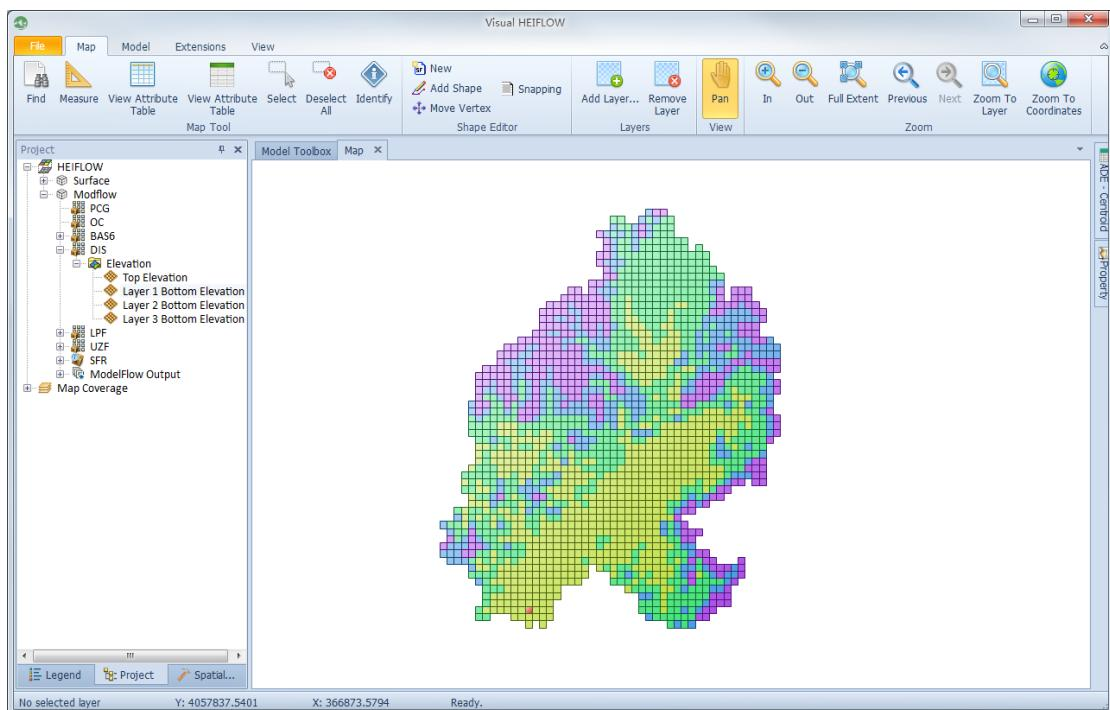

Figure 5-24. Spatial distribution of Layer 1 Bottom Elevation.
10) Click Run. Once finished, right click on the “Layer 1 Bottom Elevation” in the Project Explorer, and select Map View to see its spatial distribution (Figure 5-24)